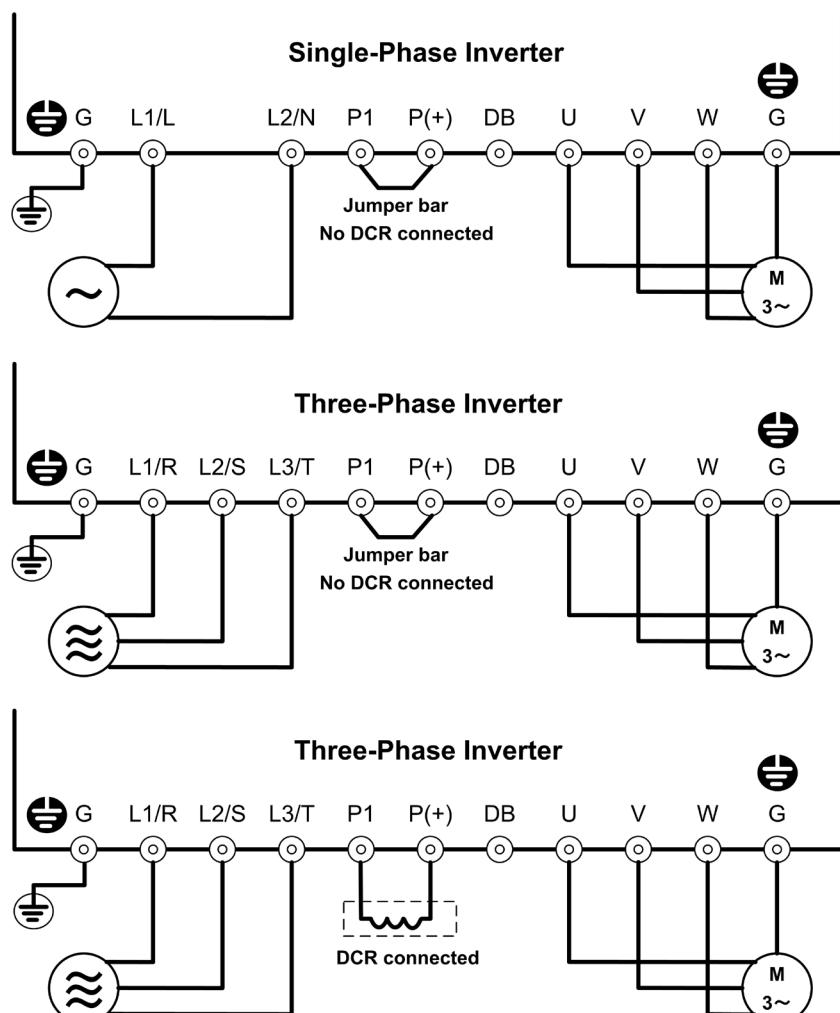

Figure 4.2-1 Connection of Main Circuit Terminals
(1) Check that the wiring is correct.
Especially check the wiring to the inverter input terminals (L1/R, L2/S, L3/T or L1/L, L2/N) and output terminals (U, V, and W). Also check that the grounding wires are connected to the grounding terminals (G) correctly. See Figure 4.2-1.